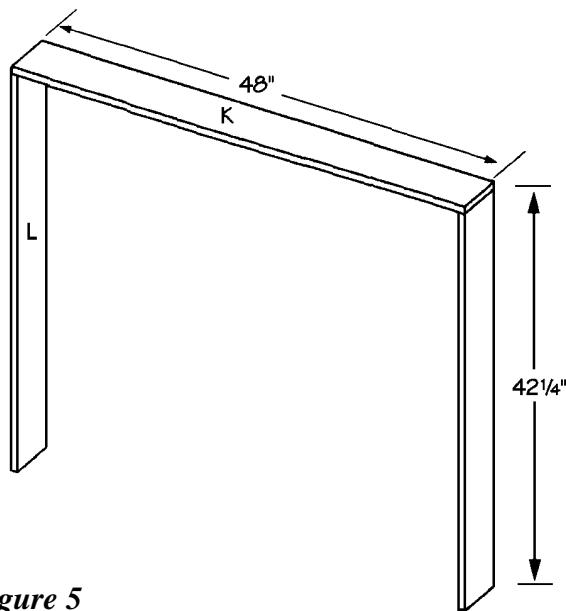

Figure 5
- Cut one hutch top (K) from 1 x 6 pine, measuring 48 inches long.
- Cut two hutch sides (L) from 1 x 6 pine, each measuring 41-1/2 inches long.
- Place the two hutch sides (L) parallel to each other, and 46-1/2 inches apart. Place the hutch top (K) over the ends of the two hutch sides (L), as shown in *Figure 5*. Screw through the hutch top (K) into the ends of the hutch sides (L). Use three 2-inch screws on each joint.